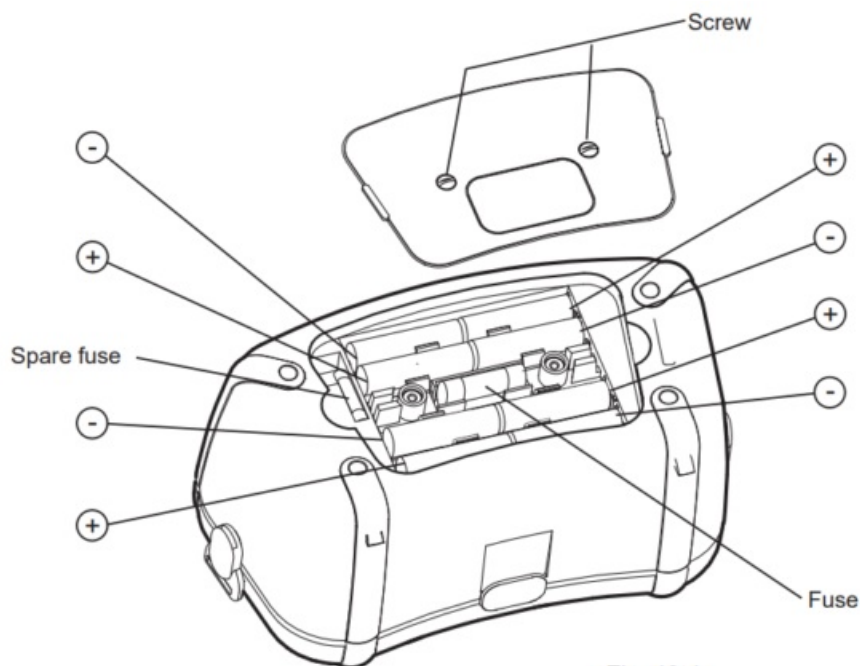

Fig. 18-1
2. Unscrew two screws and remove the battery compartment cover. (Fig. 18-1)